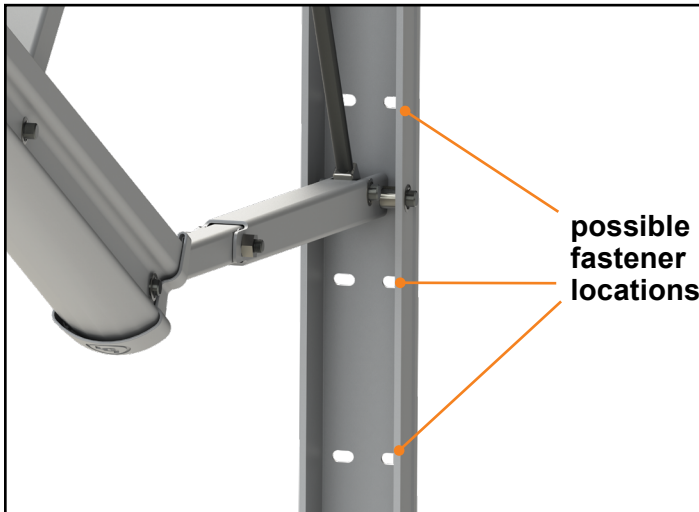

Fig.7
- Use the crank handle (Fig.10A) to extend the awning (see "Operation" section of this manual). Install the remaining two #14 x 1 1/4" plain hex head self-tapping screws at any of the three locations shown (Fig.7) in the center of the support arm. Repeat this process for the opposite awning support arm assembly.